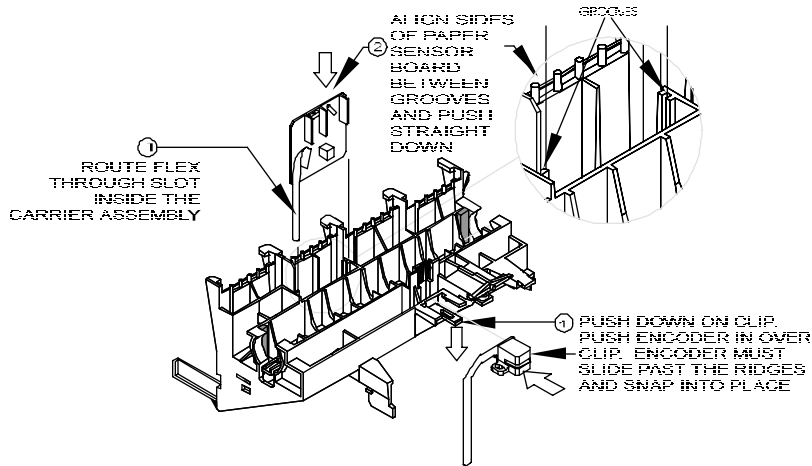

Figure 5-17. Paper and Encoder Sensor Installation.
- c. Grasp the Paper Sensor between thumb and index finger and guide the sides of the board into the grooves on each side of the opening. See Figure 5-17.